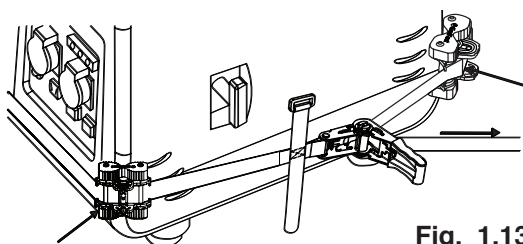

Fig. 1.13
- k. Pull the Kevlar® Strap slack tight through the Ratchet Buckle center. Maintaining tension on the Kevlar® Strap, position the Angle Braces into the desired positions on the corners of the generator. (Fig. 1.13).